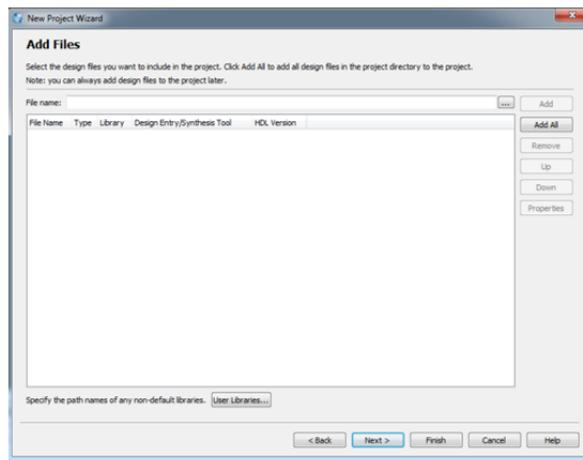

FIGURE 5.4 – Add an existing file
6. You can add an existing file at your project. To do that, go to "New project Wizard" and add the name of the existing file you want to add. (Figure 5.4 )